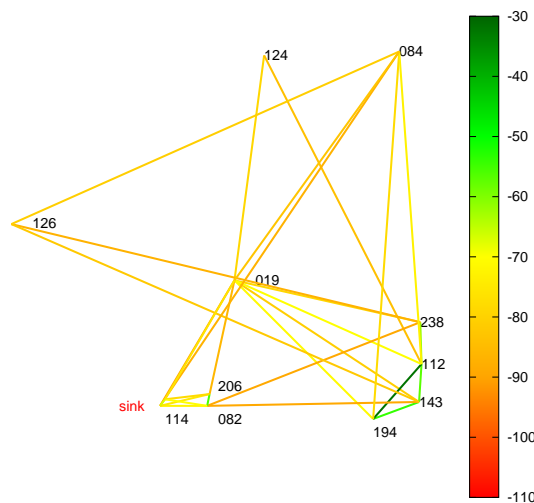

Fig. 19. An example outputted graph with 12 nodes. Links interconnect neighbors; colors indicate link quality in dBm.
- enter command `cat /dev/ttySx | ./txrx_wsn.py` on the computer hosting the sink node. You should see a graph similar to Fig. 19.